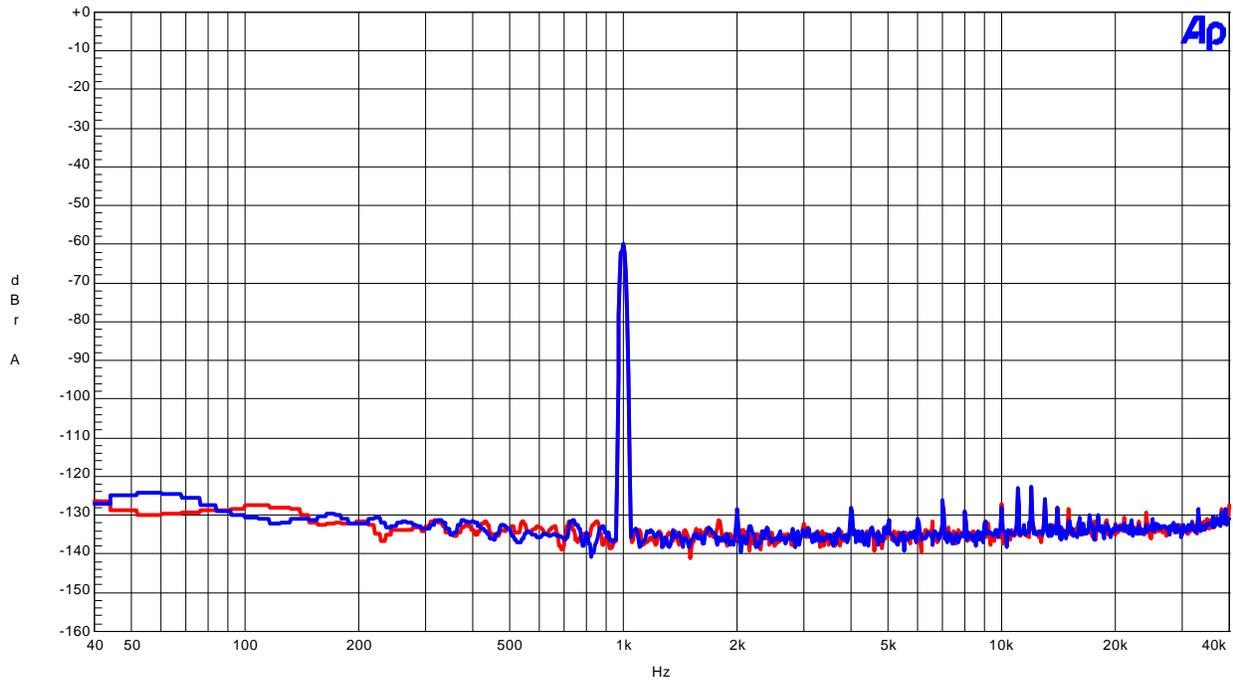

Figure17. FFT (1kHz, -60dBFS input)
- Figure17. FFT (1kHz, -60dBFS input)